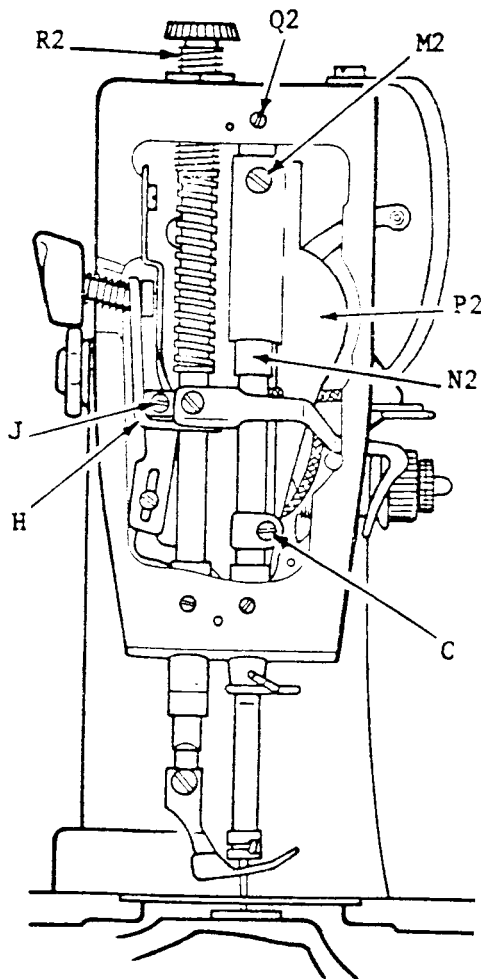
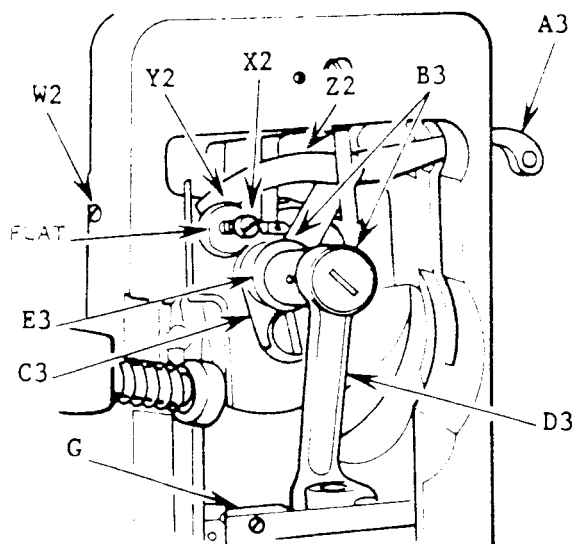

Fig. 20
Fig. 21
TO REMOVE AND REPLACE THE NEEDLE BAR (See Fig. 20)
4. Slide presser bar up through lifting lever link H, Fig. 20 and bushing and out of machine.
1. Slip presser bar down through lifting lever link H, Fig. 20 and lower presser bar bushing. Make sure that the O-ring is placed between lifting lever link H and guide bracket G.
2. Remove needle bar, upper needle bar bushing, presser bar pressure regulating thumb screw R2, Fig. 20 page 13, and guide bracket G, Fig. 21.
5. Loosen small set screw W2, Fig. 21 in the rear of the arm of the machine.
6. Insert a face plate screw X2, Fig. 21 in the tapped hole in center of stud Y2, Fig. 21 and, while holding back the needle thread take-up link inside the head at Z2, Fig. 21, pull upon the screw X2 until the stud Y2 is removed. Remove face plate screw from stud.
7. Back the end of the take-up A3, Fig. 21 toward the inside of the machine, turning the machine pulley as required until the take-up is free of the slot provided for it.
1. Make sure that the wearing plate C3 is in place and undamaged on the face of the needle bar crank, as shown in Fig. 21.
2. Place the needle thread take-up link Z2 and take-up A3 in the head of the machine so that the stud E3, Fig. 21 in the center of the linkage slips into the hole provided for it in the needle bar crank, as shown in Fig. 21.
17. Replace guide bracket G in head of machine, as shown in Fig. 21.
18. Replace presser bar pressure regulating thumb screw R2, Fig. 20, page 13.